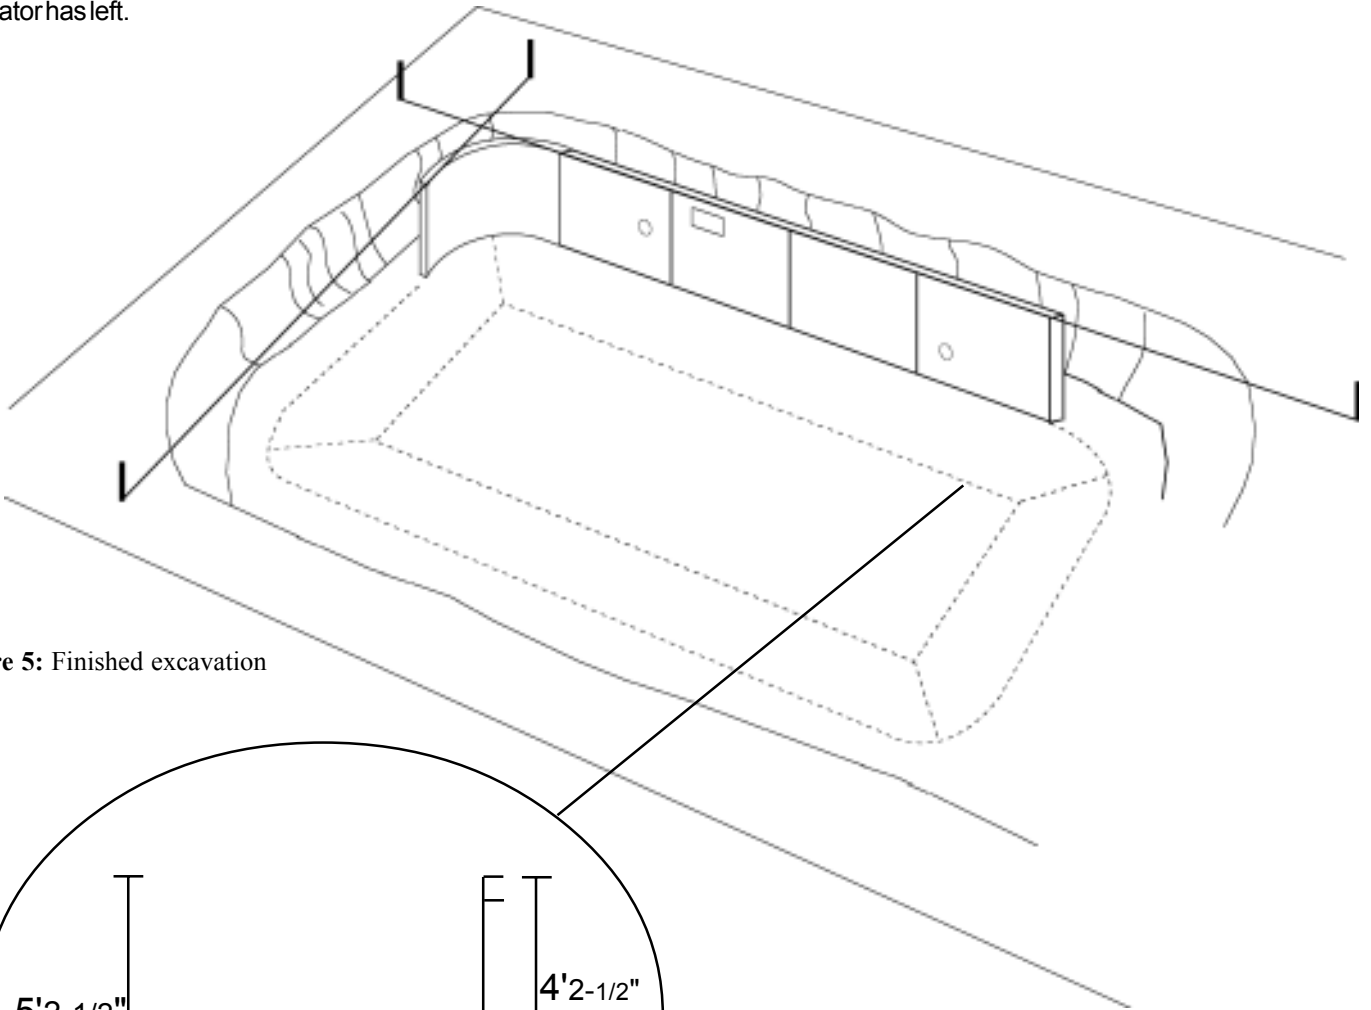

Figure 5: Finished excavation
Sketch Drawing fig.5 below shows the finished excavation. To reach this stage proceed as follows:-
- a. **Using string lines, mark on the floor of the excavation** across the width and length of the pool the 3'6" banks that will form the shape and depth as per excavation drawing below. **See fig.5 & 6.**